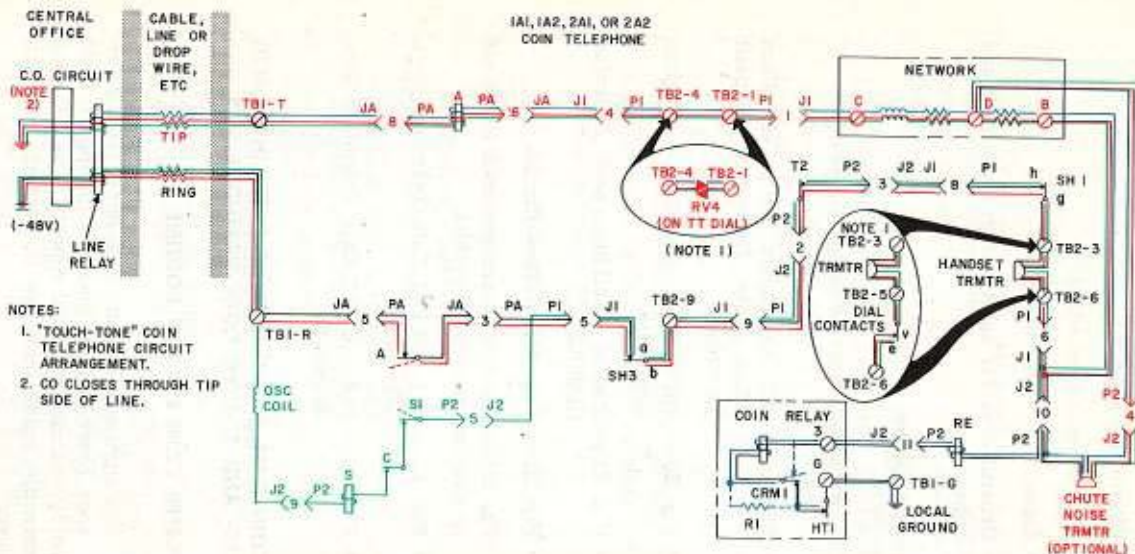

Fig. 19 — Call Abandoned With Less Than Initial Rate Deposited (Deposit Refunded)
- Fig. 19 — Call Abandoned With Less Than Initial Rate Deposited (Deposit Refunded)
LEGEND FOR FIG. 19